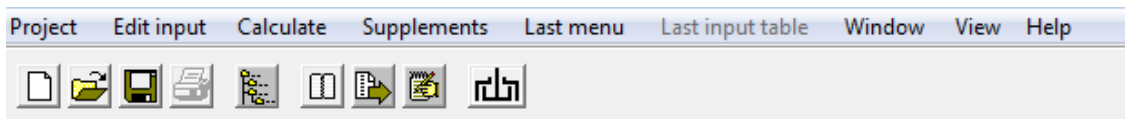

Figure 1.
1.1. After opening the program, select **Project>New** in the main menu or the icon New in the upper bar and enter name for the new project- for example, **Ex.1-Port** (Figure 1, 2)